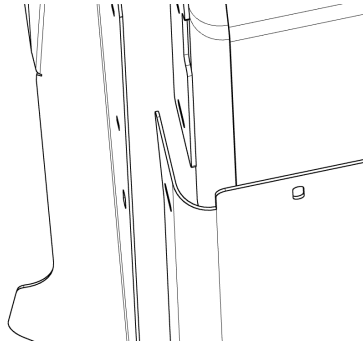
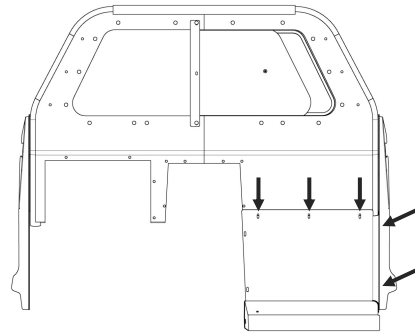

Figure 6a
Figure 6b
- B. Place the Passenger Lower Extension Panel [3LEP472001] into the vehicle and slide the outside flange between the partition and the mounting plate (Fig 6a). Align the three holes at the top of the panel and the two holes along the outside of the panel with their respective holes in the partition and the mounting plate (Fig 6b).
- C. Loosely install a carriage bolt [3X36] with whiz nut [3X16Z] into each of the (5) holes identified in the previous step. Install the fasteners such that the smooth head of the carriage bolt is facing towards the rear of the vehicle.